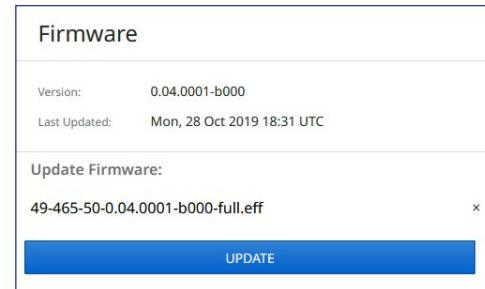

Figure 50. Firmware Update Dialog Box
4. Click **UPDATE** to begin (see figure 50). To cancel the update, click the **X** button in the **Update Firmware** panel.